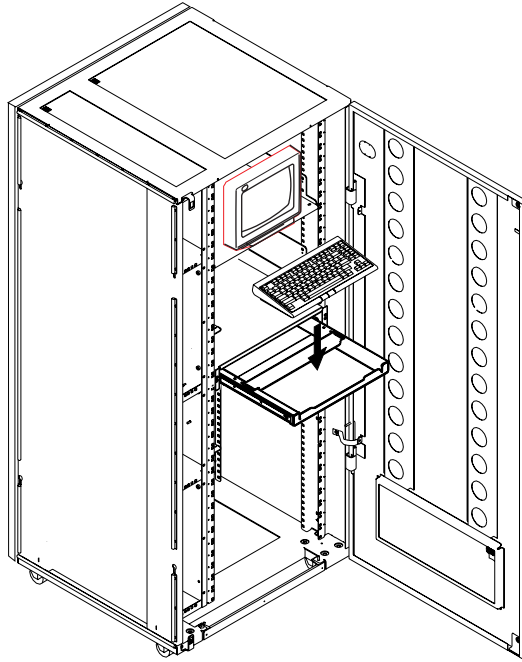

Figure 1-9. Installing the Keyboard
15. ____ Open the drawer and install the keyboard as shown in Figure 1-9 on page 1-15.